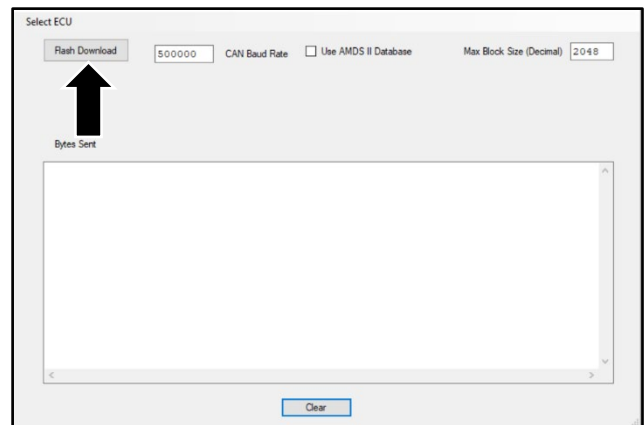

Figure 7
- 14. Select "Flash Download" (refer to Figure 7).